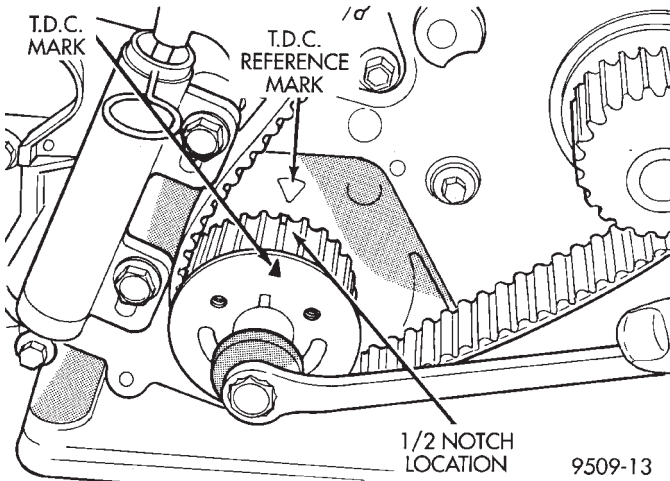

Fig. 69 Adjusting Crankshaft Sprocket for Timing Belt Installation
(6) Move crankshaft to 1/2 mark before TDC (Fig. 69) for belt installation.
(7) Install timing belt. Starting at the crankshaft, go around the water pump sprocket and then around the camshaft sprocket.